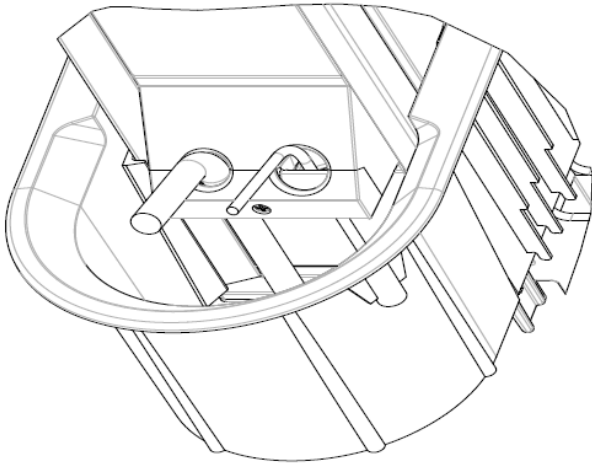

FIG. 5 CAPTURE THE CABLES
5. Secure with the #2 Phillips screw (FIG. 5).